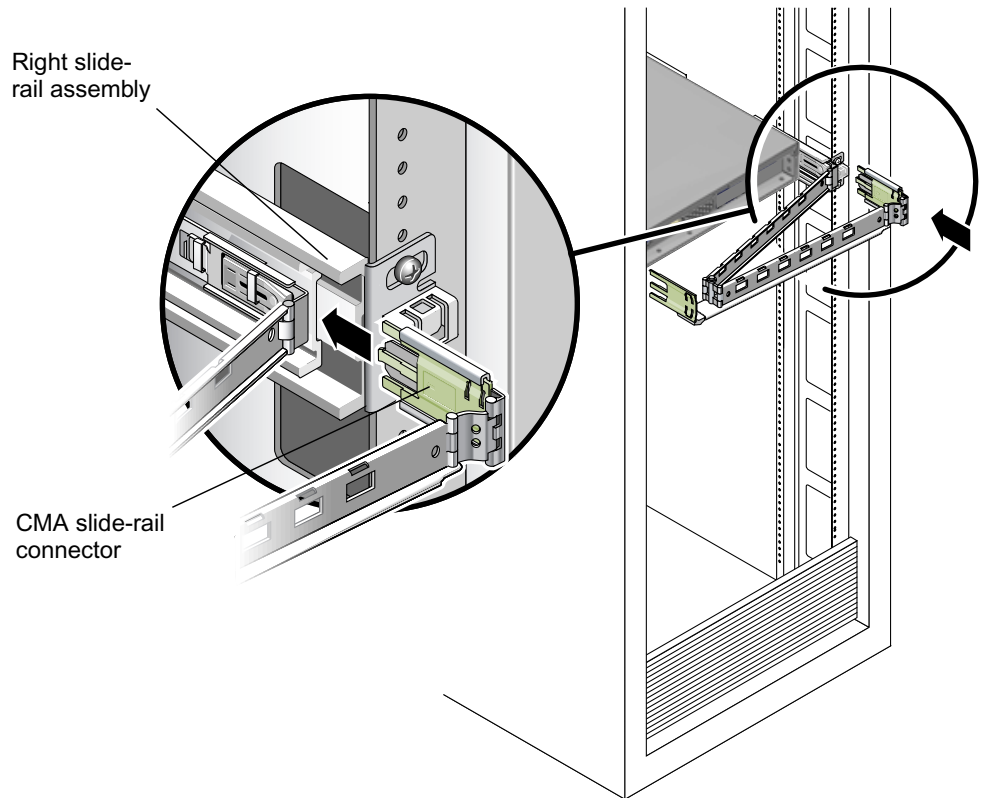

FIGURE 1-11 Inserting CMA Slide-Rail Connector Into Back of Right Slide-Rail Assembly
6. Insert the right CMA slide-rail connector into the right slide-rail assembly until the connector locks into place with an audible click. (See FIGURE 1-11.)